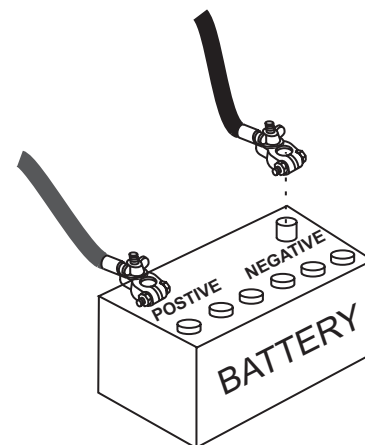

Figure 36. Battery Connections
3. Connect the negative battery cable (BLACK) to the negative post on the battery (Figure 36).